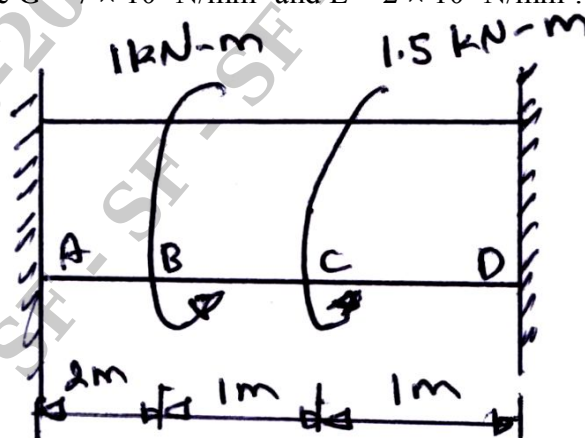

Fig.Q6(b)
b. A bar of circular cross section having a diameter of 50 mm is firmly fixed at its ends and subjected to a torque at B and C as shown in Fig.Q6(b). Determine maximum angle of twist and shear stresses. Take  $G = 7 \times 10^4 \text{ N/mm}^2$  and  $E = 2 \times 10^5 \text{ N/mm}^2$ .